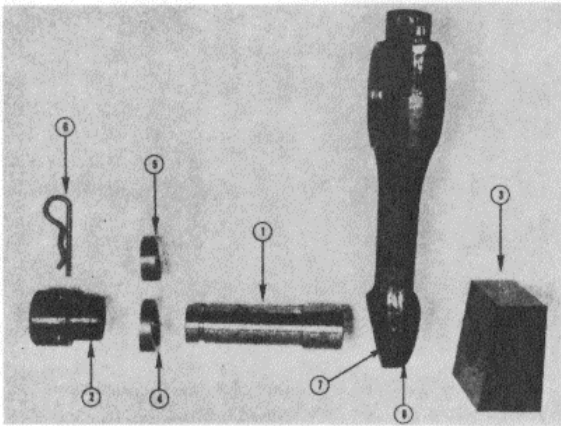

Figure 16C-32. Piston Pin and Bushing Mandrel Set
1. Use the ST-1285 Mandrel to remove worn bushings, Figure 16C-32. Remove the tool.